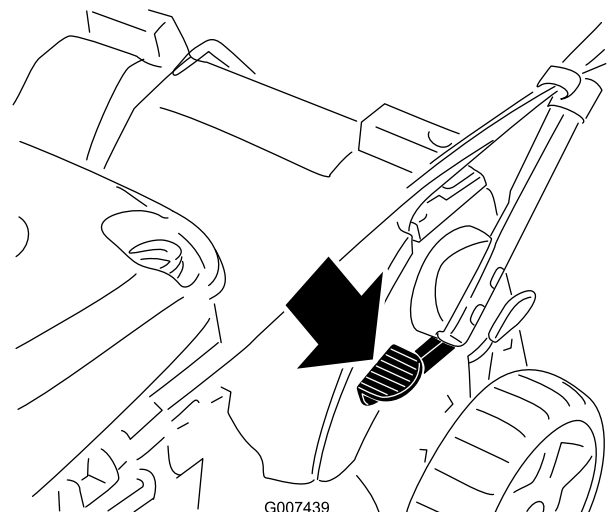

Figure 47
1. Step on the foot pedal and hold it down (Figure 47).